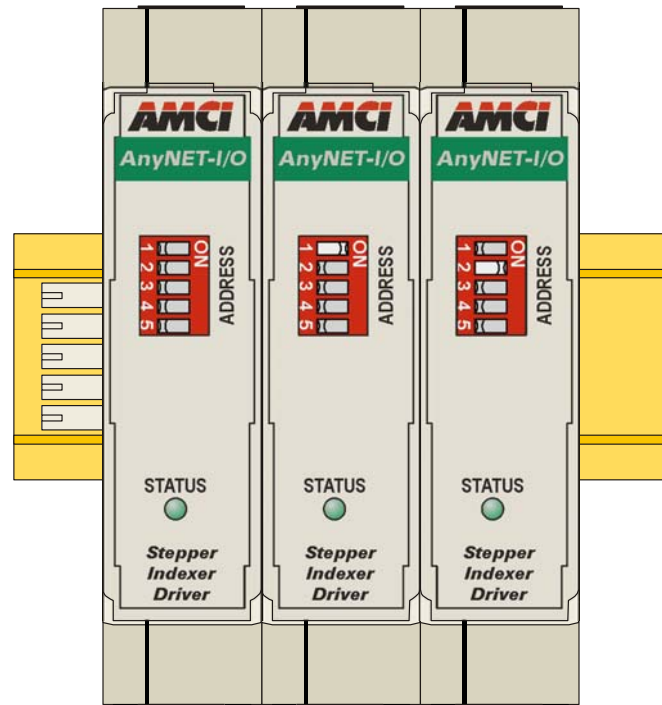

Figure 1.4 ANG1(E) Front Panel
The front panels of three ANG1(E) modules are shown in figure 1.4. The front cover is hinged on the bottom, and swings down to allow you to change the DIP switch address settings. The front panel also has the Status LED, which give you information on the state of the module.
The AnyNET-I/O platform allows you to connect up to six modules to a single network connection in what we call an AnyNET-I/O Stack. The DIP switch behind the front panel cover is used to set the address of the module within the AnyNET-I/O Stack. The first module acts as the network interface and must have an address of zero. This address is set by having all of the DIP switches in their OFF position. (If you are using a single module, then it must have an address of zero.) The remaining modules in the Stack should have their addresses set to their position in the stack by setting the corresponding DIP switch to its ON position. Figure 1.4 shows the correct addressing for three modules. The module on the left is an ANG1E and has its address set to zero. The remaining modules can be ANG1 or ANG1E modules and their addresses are set to one and two.